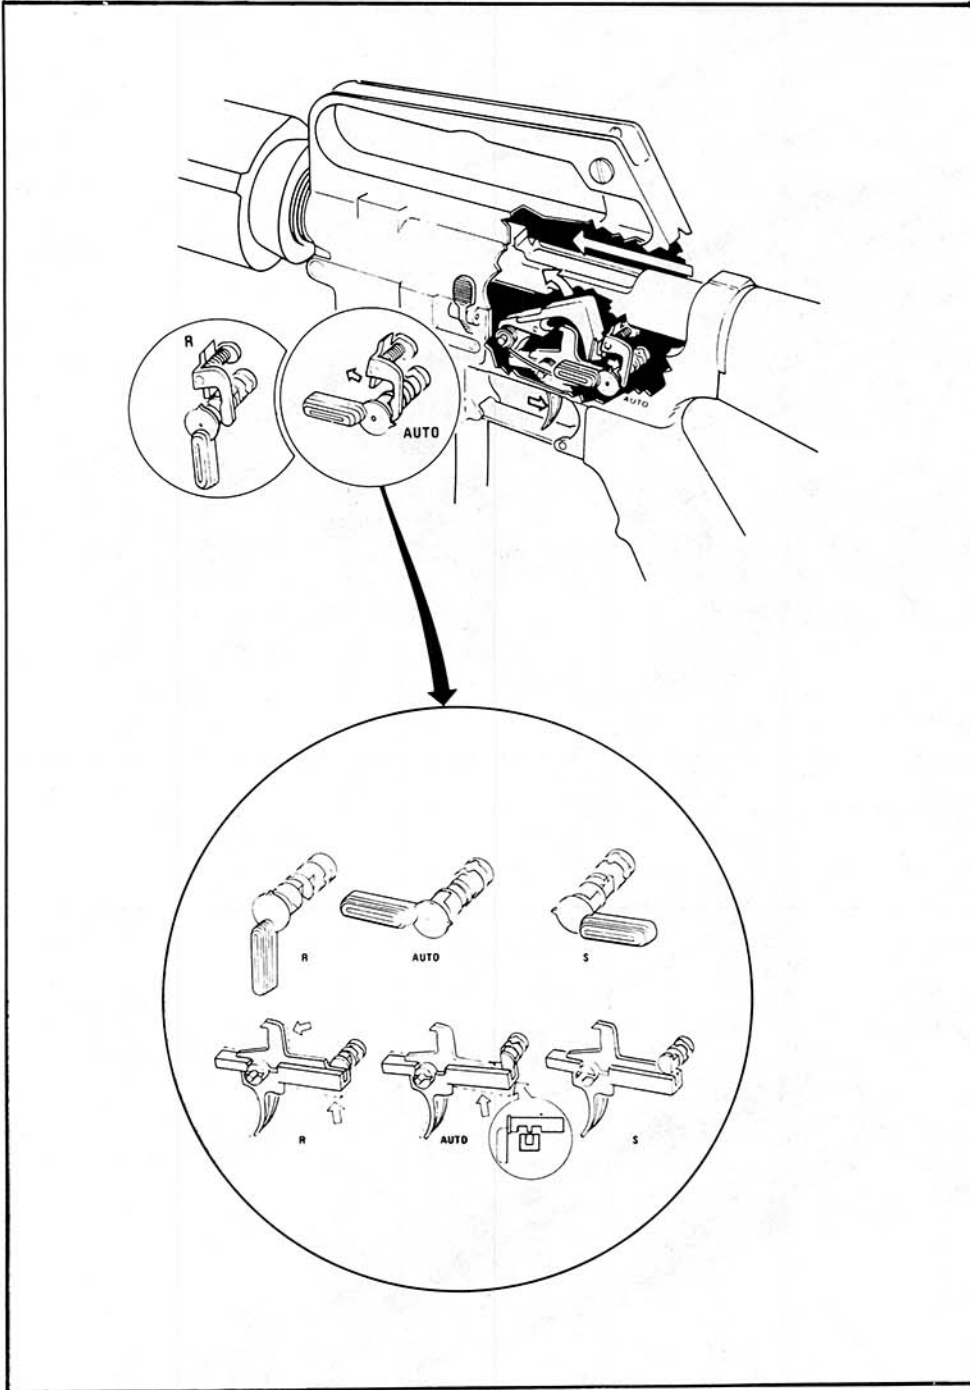

Figure 2-35 Selector Lever Action
6. Selector Lever See Figure 2-35. The rifle may be fired when the selector lever, located on the left side of the lower receiver, is set to either 'R' or 'AUTO'.